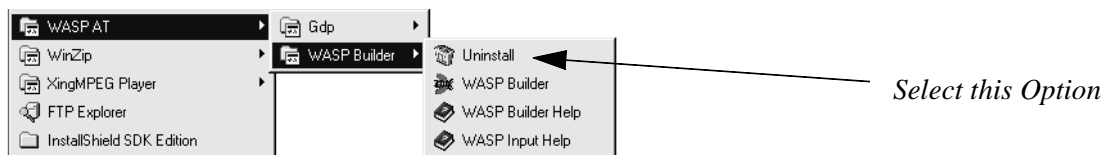

Figure 1: Uninstall Option
1. If you have a previous version of WASP Builder installed on your computer, uninstall the old version before you install the new version. You can do this by selecting the **Uninstall** option in the WASP Builder menu under the **Program** menu accessed from the **Start** option in Windows 95/98/NT, see *Figure 1*.